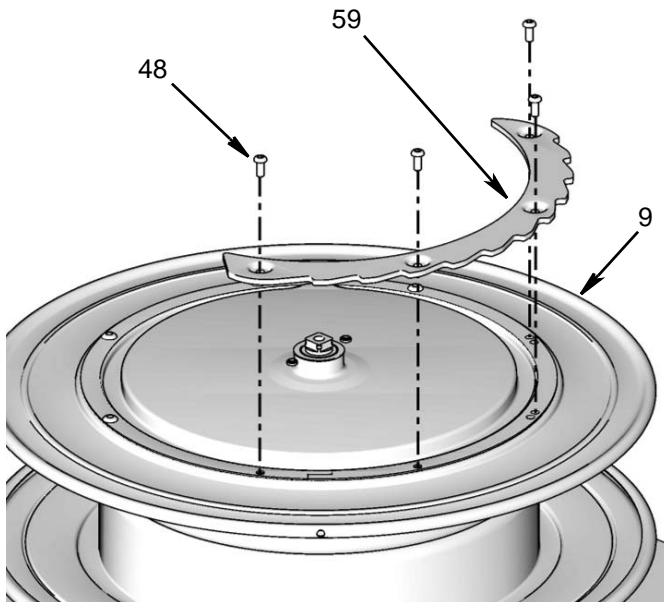

FIG. 9
- Remove screws (48) and ratchet (59) from spool (FIG. 9). Discard these parts. Use new parts included in the kit for reassembly.